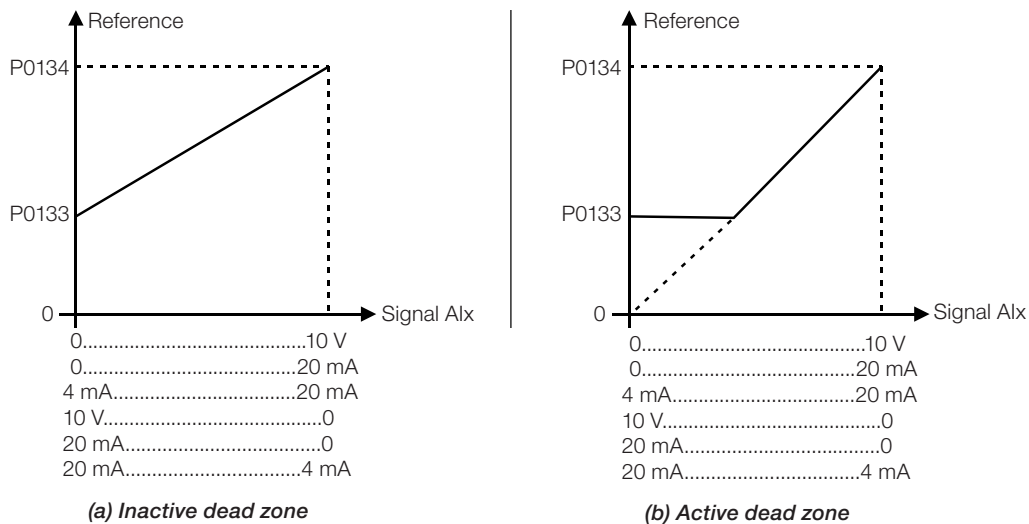

Figure 15.1: (a) and (b) Actuation of the analog inputs with inactive dead zone
If the parameter is configured as Inactive (P0230 = 0), the signal in the analog inputs will actuate on the frequency reference from the minimum point (0 V / 0 mA / 4 mA or 10 V / 20 mA), and it will be directly related to the minimum speed set in P0133. When using PID special function (P0203) via AI1 (1) or AI3 (2), PID setpoint (P0041) value goes to zero and not to the minimum speed (P0133). Check Figure 15.1 on page 15-2.
If the parameter is configured as Active (P0230 = 1), the signal in the analog inputs will have a dead zone, where the speed reference remains at the Minimum Speed value (P0133), even with the variation of the input signal. Check Figure 15.1 on page 15-2.
In the case of analog inputs AI3 set for -10 V to +10 V (P0243 = 4), we will have curves similar to Figure 15.1 on page 15-2; except that when AI3 is negative, the direction of rotation will be the opposite.